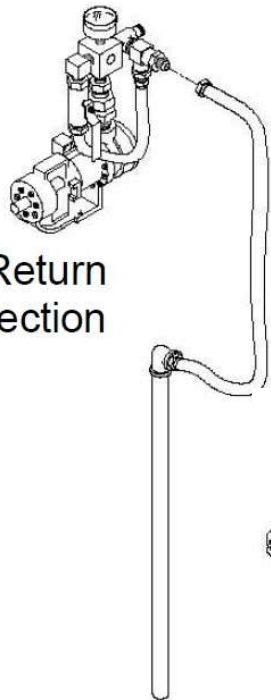

Fig. 5 - Return Hose Connection
3. Attach the fitting end of the return hose/pipe to the sprayer using the 1/2" connection on the spray block assembly. (See Fig. 5)